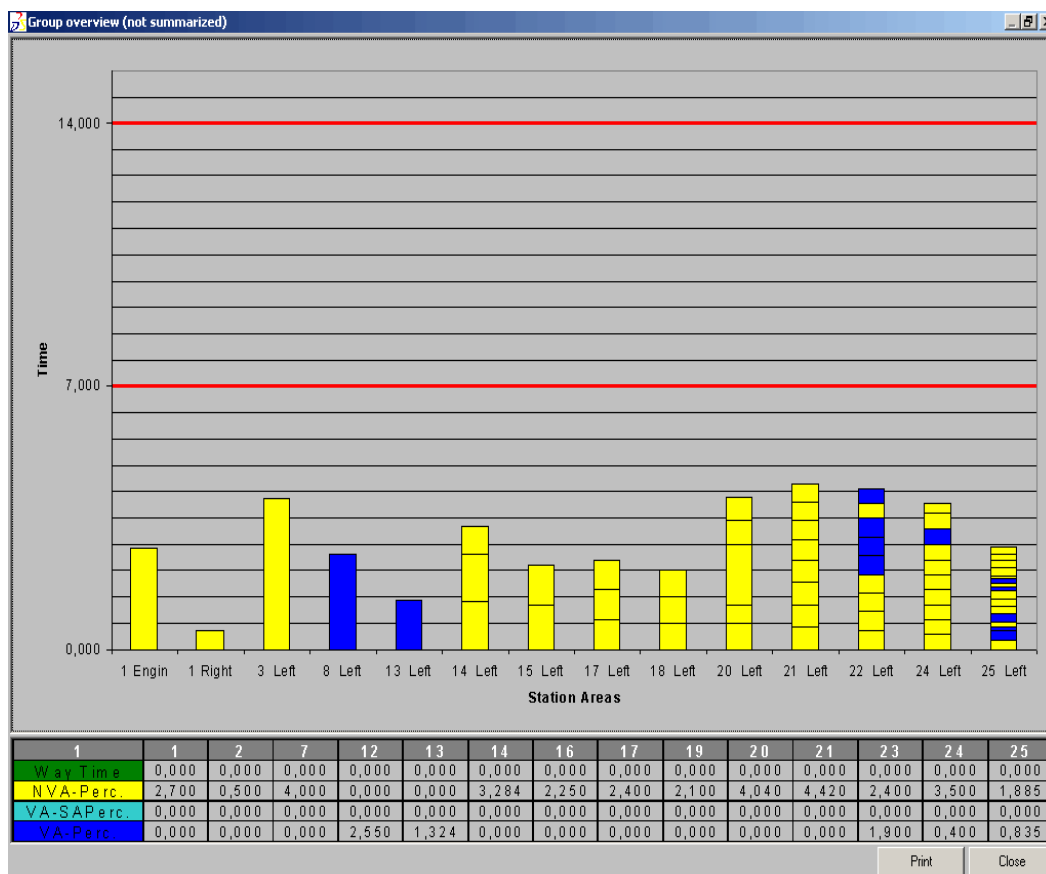

Figure 45: Example of a Diagram Non-Summarized Group Overview
- 2) Click **No** if you do not want to summarize the group overview. *Please refer to the Figure 45.*